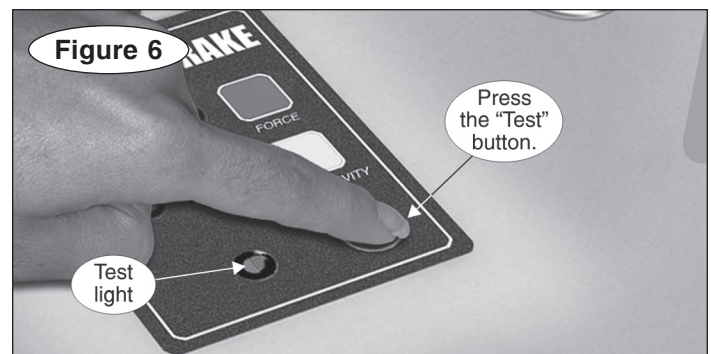

Figure 6
5. Press the “Test” button (Figure 6) on the Even Brake touch pad control panel. Even Brake will begin a self-diagnostic test.
6. After Even Brake has completed the self-diagnostic test, the test light on the touch pad control panel (Figure 6) will illuminate green to indicate the system is ready, or red to indicate the system is not ready.